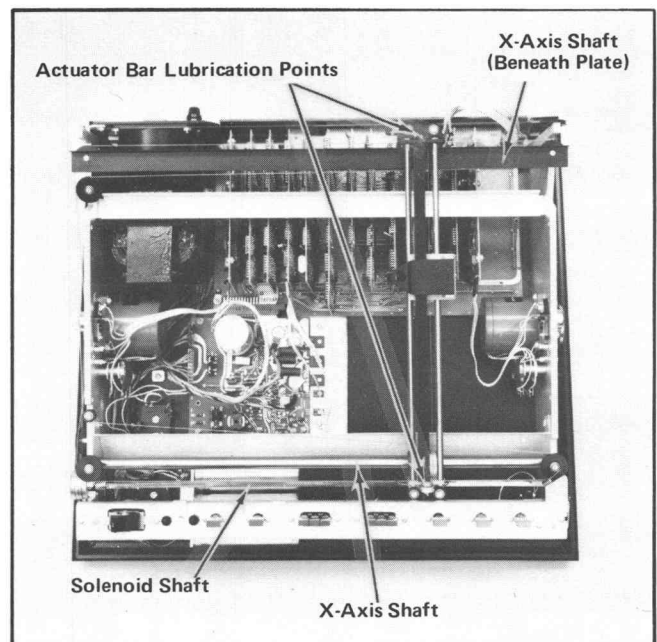

Fig. 3-6. X-Axis locations.
1. There are two X-axis shafts, along which the pen carriage moves horizontally; one runs along the front of the Plotter, and one along the rear. The pen solenoid shaft runs just in front of the forward axis shaft (Fig. 3-6). Clean the lubricant and contaminants from these shafts with paper tissue or cloth.
2. Lubricate the full length of the three shafts evenly with Lubriplate A, Type 105, or equivalent (Tektronix Part Number 006-0617-00). In addition, lubricate the two ends of the pen actuator bar (Fig. 3-6).